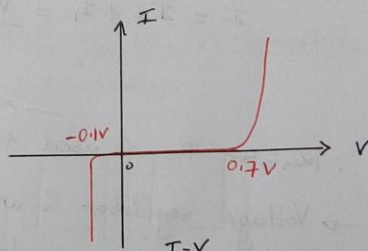

fig 3: Characteristics of backward diode
- Fig 3 shows I-V curve for a backward diode.